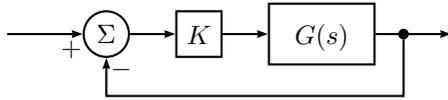

Figure 3.14a
3.14 A system  $G(s)$  is controlled using feedback with a proportional controller according to Figure 3.14a.